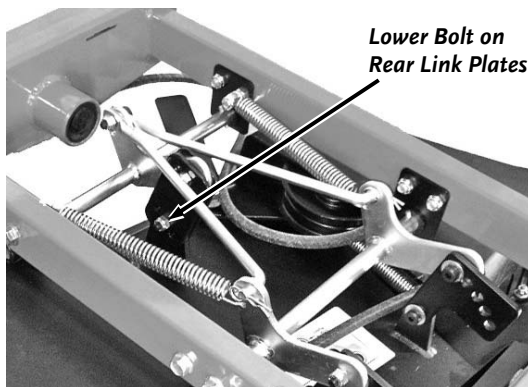

Figure 15
8. Remove the lower Bolt on the Rear Link Plates (**Figure 15**) and swing the Link Plates out of the way so the Belt clears. Remove the Belt.